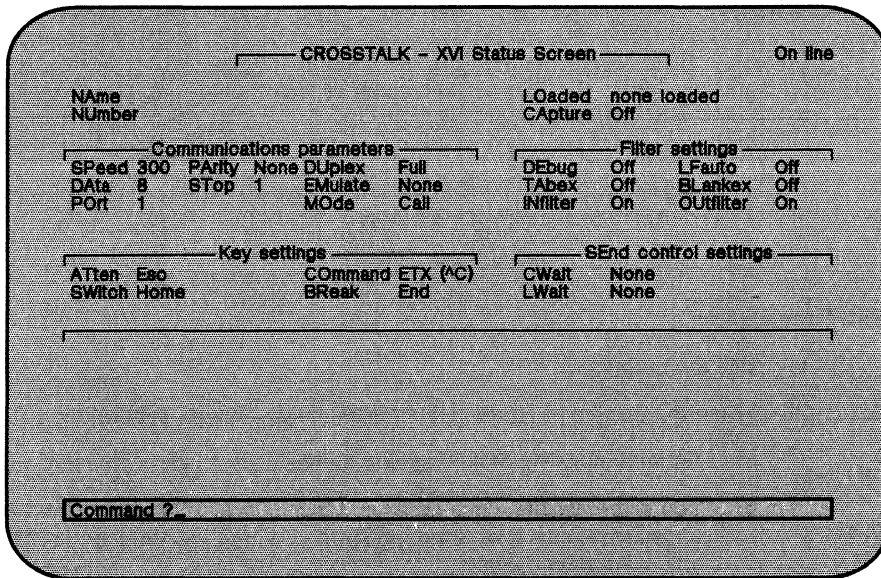

Figure 2-5. First CROSSTALK Screen
- 2) When the display of Figure 2-5 appears, follow this procedure.